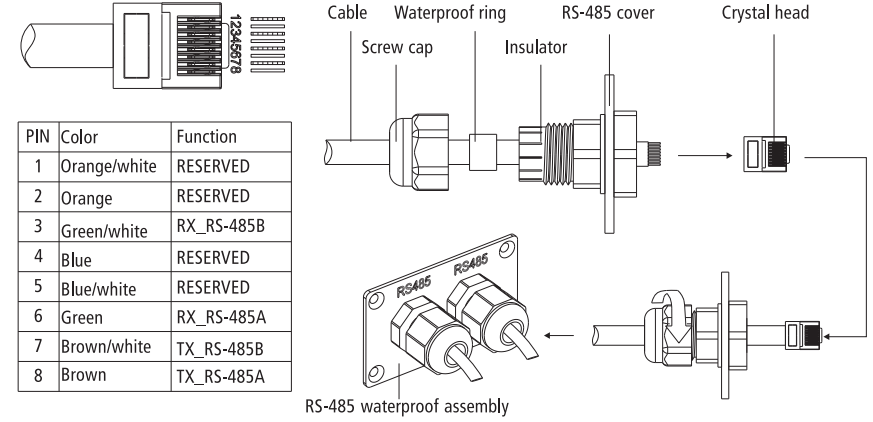

Figure 4.4-1
- Put the cable through the components in this order: screw cap, waterproof ring, insulator, RS-485 cover. Refer to Figure 4.4-1.
- Put cable cores insert into the corresponding slots and compress the crystal head by professional tool, then screw down screw cap slight. Refer to Figure 4.4-1.